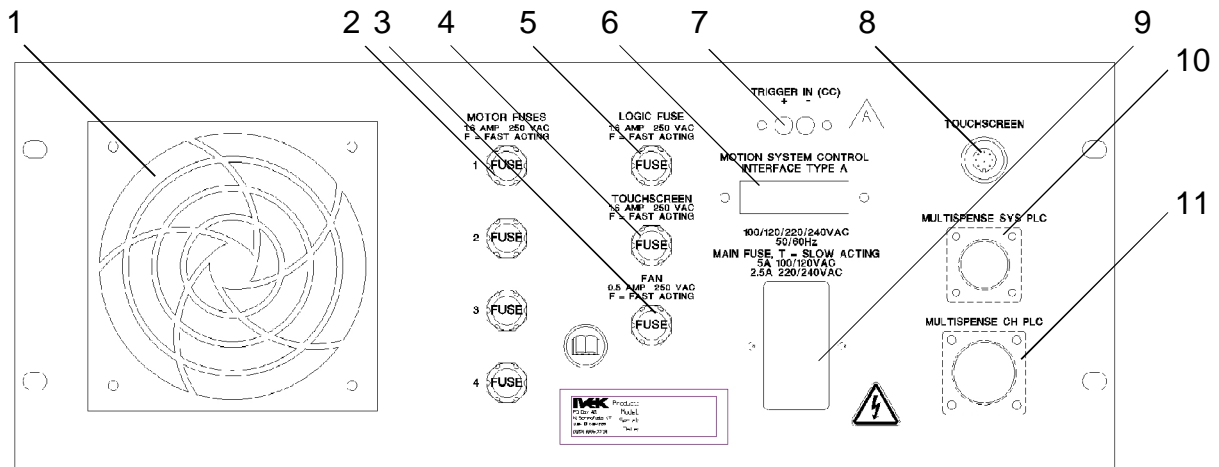
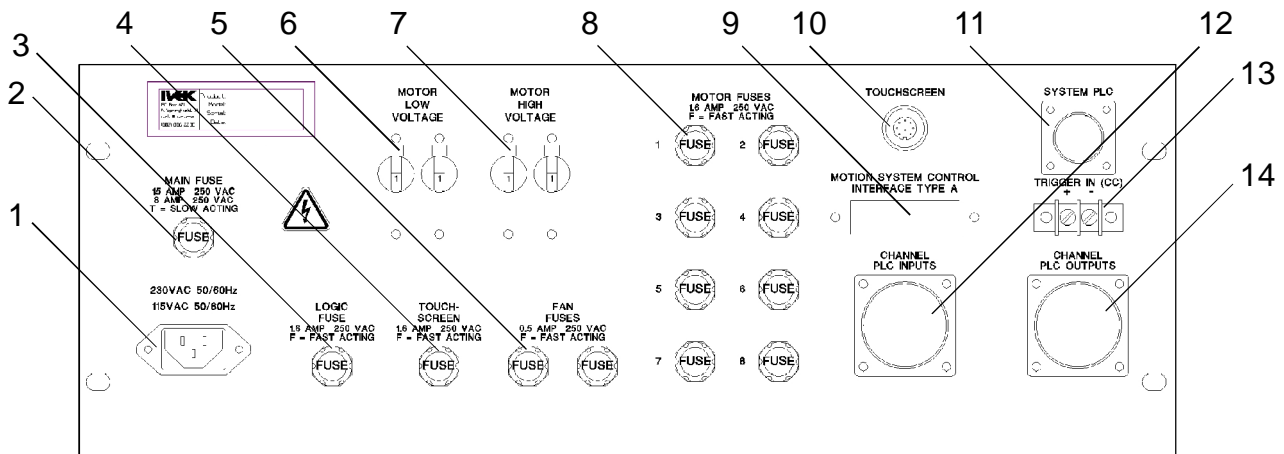

Figure 3.2A Multispense 2000 1 - 4 Channel Controller Module Rear Panel
Figure 3.2B Multispense 2000 5 - 32 Channel Controller Module Rear Panel
The rear panel of your Controller Module will look similar to either Figure 3.2A or Figure 3.2B. If your system is 4 or less channels it will look similar to Figure 3.2A. If your system is 5 or more channels it will look similar to Figure 3.2B.
3.1.2.1 Fan (Figure 3.2A Item 1)
3.1.2.2 Motor Fuse Holder and Fuse (Figure 3.2A Item 2 and Figure 3.2B Item 8)
3.1.2.3 Fan Fuse Holder and Fuse (Figure 3.2A Item 3 and Figure 3.2B Item 5)
3.1.2.4 Touchscreen Fuse Holder and Fuse (Figure 3.2A Item 4 and Figure 3.2B Item 4)
3.1.2.5 Logic Fuse Holder and Fuse (Figure 3.2A Item 5 and Figure 3.2B Item 3)
3.1.2.6 Motion System Control Interface Type A Connector (Figure 3.2A Item 6 and Figure 3.2B Item 9)
3.1.2.7 Trigger In Terminal Block (Figure 3.2A Item 7 and Figure 3.2B Item 13)
3.1.2.8 Touchscreen Connector (Figure 3.2A Item 8 and Figure 3.2B Item 10)
3.1.2.9 Power Entry Module (Figure 3.2A Item 9)
3.1.2.10 System PLC Connector (Figure 3.2A Item 10 and Figure 3.2B Item 11)
3.1.2.11 Channel PLC Inputs and Outputs Connector (Figure 3.2A Item 11 and Figure 3.2B Items 12 and 14)
3.1.2.12 Power Cord, Main Fuse Holder and Fuse (Figure 3.2B Items 1 and 2)
3.1.2.13 Motor Low Voltage Circuit Breaker (Figure 3.2B Item 6)
3.1.2.14 Motor High Voltage Circuit Breaker (Figure 3.2B Item 7)